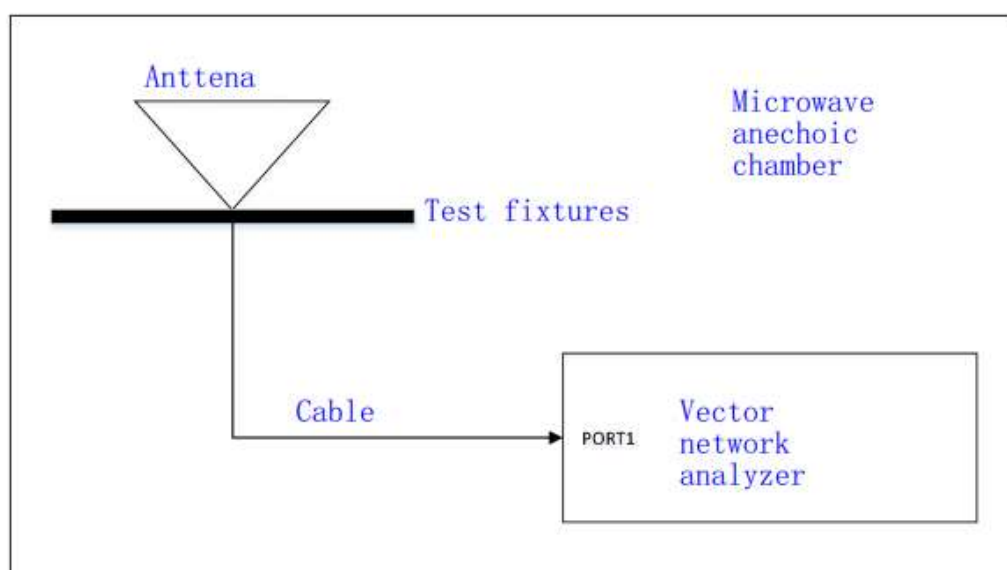

Figure 2: Antenna VSWR Test schematic
- 3) As shown in Figure 2, in a microwave anechoic chamber environment, connect the L1 or L2 ports of the antenna under test and other test equipment, and connect the other ports of the passive antenna to a 50 Ω load;